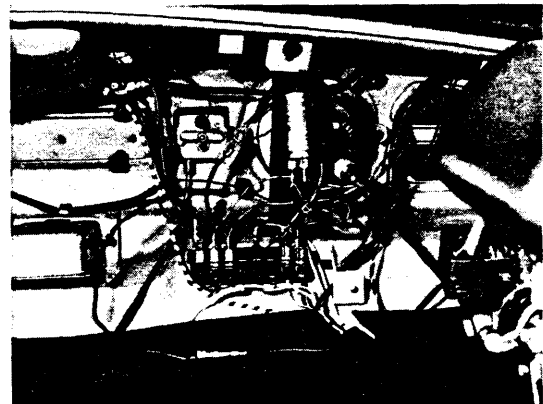

Fig. 6
- 10 - Connect heater positive to KL 30 in the fuse box with the adaptor provided. Fig. 6 and wiring diagram.